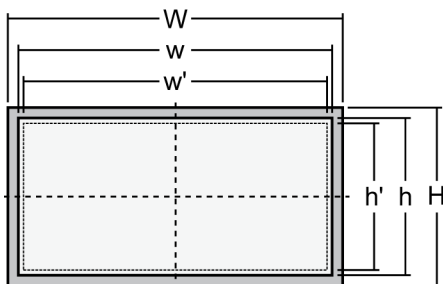

Fig. 18: Cutout schematic
1. ➔ Cut out the panel according to the dimensions in Fig. 18.